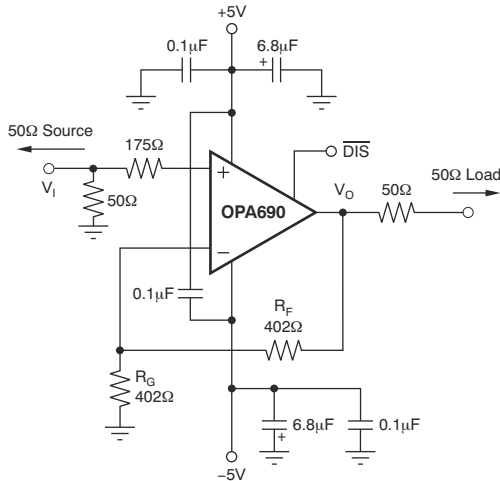
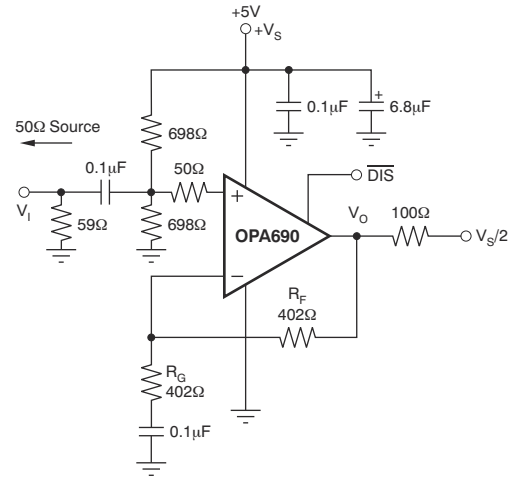

图 7-1. DC-Coupled, $G = 2$ V/V, Bipolar-Supply Specification and Test Circuit
图 7-2. AC-Coupled, $G = 2$ V/V, Single-Supply Specification and Test Circuit
at $T_A = 25^\circ C$, $G = 2$, $R_F = 402\ \Omega$, and $R_L = 100\ \Omega$ (unless otherwise noted); see 图 7-1 for ac performance only
at $T_A = 25^\circ\text{C}$, $G = 2$, $R_F = 402\ \Omega$, and $R_L = 100\ \Omega$ (unless otherwise noted); see 图 7-1 for ac performance only
at $T_A = 25^\circ C$, $G = 2$, $R_F = 402\ \Omega$, and $R_L = 100\ \Omega$ (unless otherwise noted); see 图 7-2 for ac performance only
图 7-1 shows the dc-coupled, gain of 2 V/V, dual power-supply circuit configuration used as the basis of the 节 6.11. For test purposes, the input impedance is set to 50 Ω with a resistor to ground and the output impedance is set to 50 Ω with a series output resistor. Voltage swings reported in the specifications are taken directly at the input and output pins, while output powers (dBm) are at the matched 50- Ω load. For the circuit of 图 7-1, the total effective load is 100 Ω || 804 Ω . The disable control line is typically left open to maintain normal amplifier operation. An additional resistor (175 Ω) is included in series with the noninverting input. Combined with the 25- Ω DC source resistance looking back towards the signal generator, this gives an input bias current canceling resistance that matches the 200- Ω source resistance seen at the inverting input (see 节 8.1.8). In addition to the usual power-supply decoupling capacitors to ground, a 0.1- μ F capacitor is included between the two power-supply pins. In practical printed-circuit board (PCB) layouts, this optional-added capacitor typically improves the 2nd-harmonic distortion performance.
图 7-2 shows the AC-coupled, gain of 2, single-supply circuit configuration which is the basis of the 5 V and 节 6.12. Although not a rail-to-rail design, the OPA690 requires minimal input and output voltage headroom compared to other very wideband voltage-feedback op amps. The device delivers a 3-V_{PP} output swing on a single 5-V supply with > 120-MHz bandwidth. The key requirement of broadband single-supply operation is to maintain input and output signal swings within the useable voltage ranges at both the input and the output. The
circuit of 图 7-2 establishes an input midpoint bias using a simple resistive divider from the 5-V supply (two 698- Ω resistors). The input signal is then ac-coupled into the midpoint voltage bias. The input voltage can swing to within 1.5 V of either supply pin, giving a 2- V_{PP} input signal range centered between the supply pins. The input impedance matching resistor (59 Ω) used for testing is adjusted to give a 50- Ω input load when the parallel combination of the biasing divider network is included.
Voltage-feedback op amps exhibit decreasing closed-loop bandwidth as the signal gain is increased. In theory, this relationship is described by the gain bandwidth product (GBP) shown in 节 6.5 and 节 6.7. Ideally, dividing GBP by the noninverting signal gain (also called the noise gain, or NG) predicts the closed-loop bandwidth. In practice, this relationship only holds true when the phase margin approaches 90°, as in high-gain configurations. At low gains (increased feedback factors), most amplifiers exhibit a more complex response with lower phase margin. The OPA690 is compensated to give a slightly peaked response in a noninverting gain of 2 V/V (see 图 7-1). This compensation results in a typical gain of 2 bandwidth of 220 MHz, far exceeding that predicted by dividing the 300 MHz GBP by 2. Increasing the gain causes the phase margin to approach 90° and the bandwidth to more closely approach the predicted value of (GBP/NG). At a gain of 10, the 30-MHz bandwidth shown in the ± 5 -V *Electrical Characteristics* agrees with that predicted using the simple formula and the typical GBP of 300 MHz.
The frequency response in a gain of 2 V/V can be modified to achieve exceptional flatness by simply increasing the noise gain to 2.5. One method, without affecting the two signal gain, is to add an 804- Ω resistor across the two inputs in the circuit of 图 7-1. A similar technique can be used to reduce peaking in unity-gain (voltage-follower) applications. For example, by using a 402- Ω feedback resistor along with a 402- Ω resistor across the two op amp inputs, the voltage follower response is similar to the gain of 2 response of 图 7-2. Reduce the value of the resistor across the op amp inputs to further limit the frequency response due to increased noise gain.
The OPA690 is a general-purpose, wideband voltage-feedback op amp; therefore, all of the familiar op amp application circuits are available to the designer. Inverting operation is one of the more common requirements and offers several performance benefits. 图 8-1 shows a typical inverting configuration where the I/O impedances and signal gain from 图 7-1 are retained in an inverting circuit configuration.
The second major consideration, touched on in the previous paragraph, is that the signal source impedance becomes part of the noise gain equation and influences the bandwidth. For the example in 图 8-1, the R_M value combines in parallel with the external 50- Ω source impedance, yielding an effective driving impedance of $50\ \Omega \parallel 67\ \Omega = 28.6\ \Omega$. This impedance is added in series with R_G for calculating the noise gain (NG). The resultant NG is 2.8 for 图 8-1, as opposed to only 2 if R_M can be eliminated as discussed previously. Therefore, the bandwidth is slightly less for the circuit of 图 8-1 than for the gain of 2 circuit of 图 7-1.
A good practice is to target the parallel combination of R_F and R_G (see 图 7-1) to be less than approximately 300 Ω . The combined impedance $R_F \parallel R_G$ interacts with the inverting input capacitance, placing an additional pole in the feedback network, and thus, a zero in the forward response. Assuming a 2-pF total parasitic on the inverting node, holding $R_F \parallel R_G < 300 \Omega$ keeps this pole greater than 250 MHz. Alone, this constraint implies that the feedback resistor R_F can increase to several k Ω at high gains. This result is acceptable as long as the pole formed by R_F and any parasitic capacitance appearing in parallel is kept out of the frequency range of interest.
The OPA690 provides good distortion performance into a 100- Ω load on ± 5 -V supplies. Relative to alternative solutions, this device provides exceptional performance into lighter loads, while operating on a single 5-V supply. Increasing the load impedance improves distortion directly. Remember that the total load includes the feedback network; in the noninverting configuration (see 图 7-1), this total load is sum of $R_F + R_G$, while in the inverting configuration the total load is just R_F . Also, providing an additional supply-decoupling capacitor (0.1 μ F) between the supply pins (for bipolar operation) improves the 2nd-order distortion.
Evaluating these two equations for the OPA690 circuit and component values (see 图 7-1) gives a total output spot noise voltage of 12.3 nV/√Hz and a total equivalent input spot noise voltage of 6.1 nV/√Hz. This is including the noise added by the bias current cancellation resistor (175 Ω) on the noninverting input. This total input-referred spot noise voltage is only slightly higher than the 5.5-nV/√Hz specification for the op amp voltage noise alone. This is the case as long as the impedances appearing at each op amp input are limited to the previously recommend maximum value of 300 Ω. Keeping both $(R_F \parallel R_G)$ and the noninverting input source impedance less than 300 Ω satisfies both noise and frequency response flatness considerations. Because the resistor-induced noise is relatively negligible, additional capacitive decoupling across the bias current cancellation resistor (R_B) for the inverting op amp configuration of 图 8-1 is not required.
The balanced input stage of a wideband voltage-feedback op amp allows good output dc accuracy in a wide variety of applications. Although the high-speed input stage does require relatively high input bias current (typically $\pm 8 \mu\text{A}$ at each input terminal), the close matching can be used to reduce the output dc error caused by this current. The total output offset voltage can be considerably reduced by matching the dc source resistances appearing at the two inputs. This matching reduces the output dc error due to the input bias currents to the offset current times the feedback resistor. Evaluating the configuration of 图 7-1, and using worst-case 25°C input offset voltage and current specifications, gives a worst-case output offset voltage equal to:
As a worst-case example, compute the maximum T_J using an OPA690-DBV (6-pin SOT-23 package) in the circuit of 图 7-1 operating at the maximum specified ambient temperature of 85°C and driving a grounded 20-Ω load.